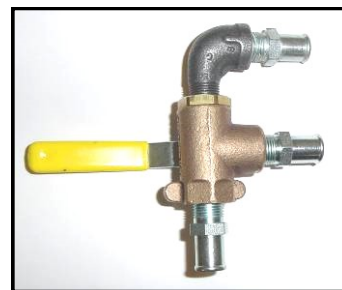

Fig. 3.4 (diverter valve assembly)
3.4 Per fig. 3.4, assemble the supplied 90 degree elbow (qty.: one) and three hose nipples as shown. Use Teflon tape on the threads.